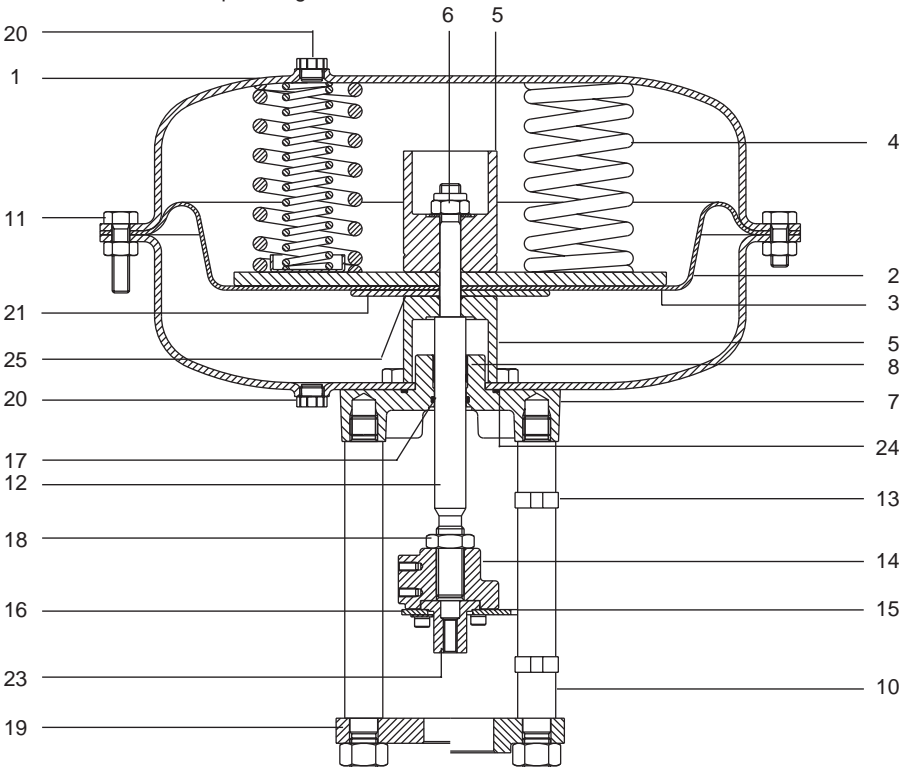

Fig. 9 PN 5500, PN 5600 series actuator
6.1.1 Diaphragm kit - How to fit (See Fig. 9)
(See Fig. 9)